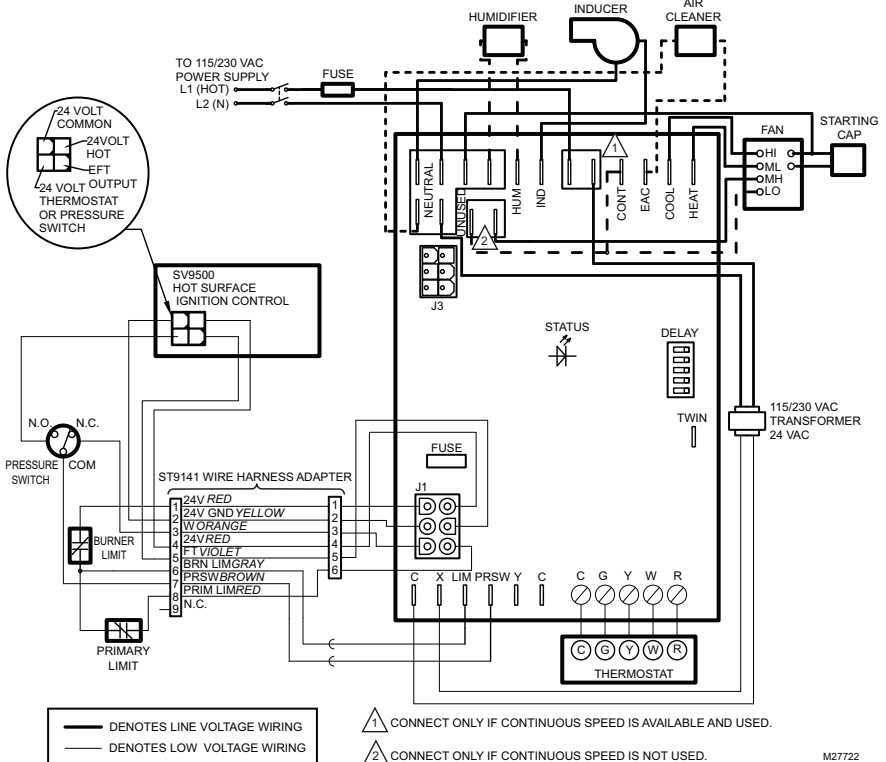

Fig. 4. Typical ST9120B,U wiring connections in ST9141 system with SV9500/SV9501 SmartValve™ Control.
7. Check proper connection using Fig. 4.